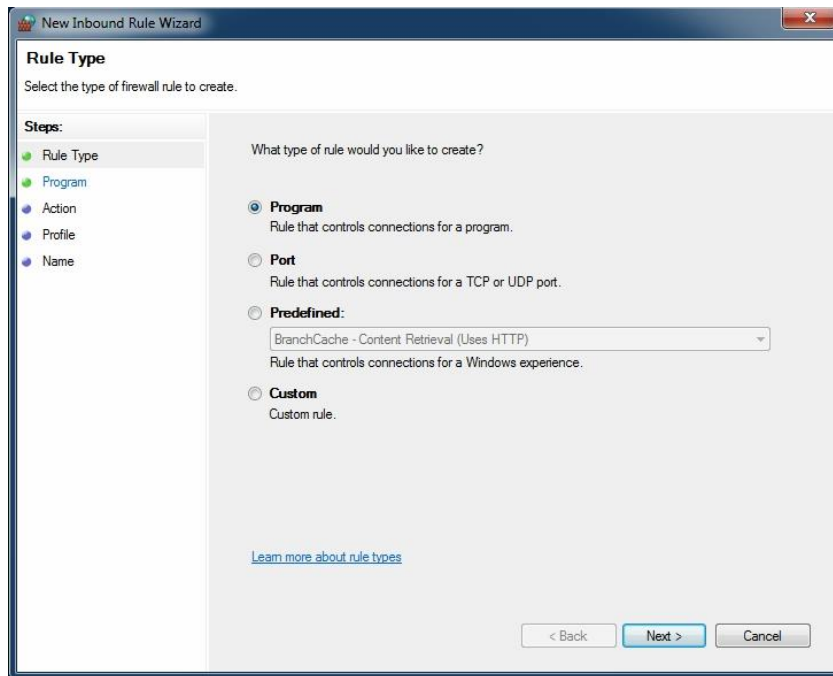

Figure 3-12 Windows Firewall – Advanced Security New Rule: Type
Step 6: The "New Rule" process will begin with the RULE TYPE menu as shown in Figure 3-12.